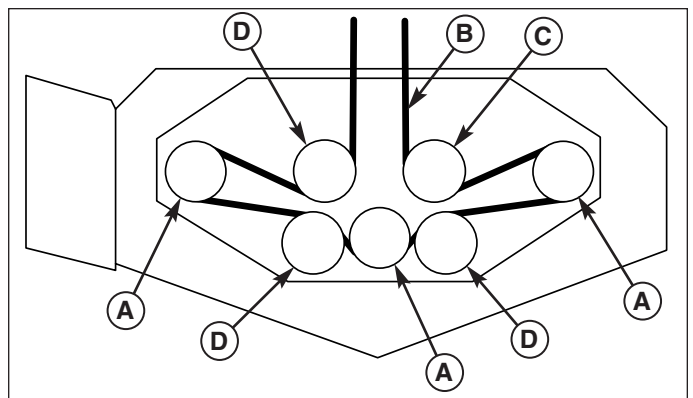

Figure 41. Mower PTO Belt Routing
4. Slide the drive belt over the edge of the stationary idler pulley (B). Carefully release the tension on the breaker bar until the idler arm stops against the center spindle pulley.
5. Remove the old belt and replace with a new one. Make sure the V-side of the belt runs in the pulley grooves (Figure 41).